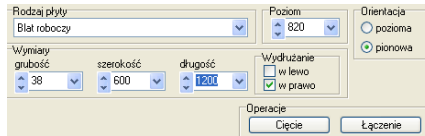

Fig. 197 – lengthening a worktop
- the process of changing parameters of the edited worktop is visible in the design (Fig. 197),